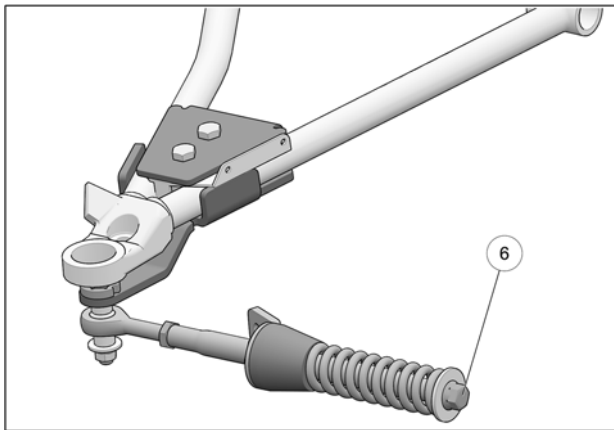

Fig. 14
8. Verify that spring assembly bolt (6) is tightened to the recommended torque specification: 75 N•m [55 lb•ft]. Refer to Fig. 14